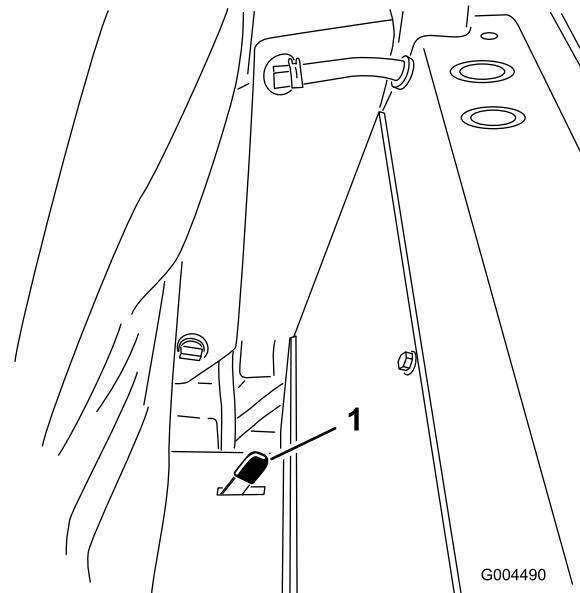

Figure 36
2. Push one of the seat latches, located behind and to the sides of the seat, rearward to unlatch the seat and pull forward on the top of the seat (Figure 36).